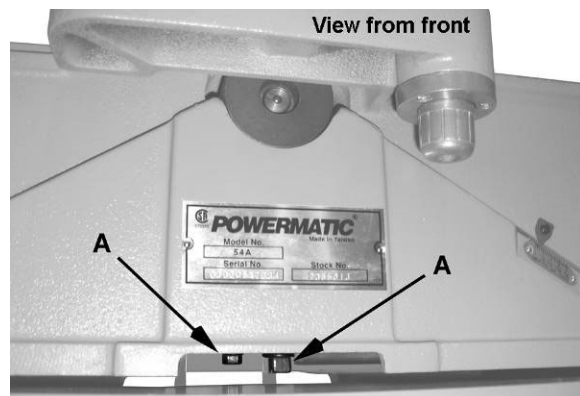

Figure 47
6. Using an 8mm hex wrench, loosen two hex cap screws underneath *fence base casting* (E) that secure the casting to the *table* (F). Remove the *fence base casting* and set aside.
7. Remove four *screws* and *washers* (A) securing the *belt guard* (B). Remove the *belt guard*.
8. Using a 14mm wrench, remove two screws (A, Fig. 47) and *lock washers* that secure the cutterhead bearing housings to the base.
9. Using a 3mm hex wrench, loosen two set screws that secure the cutterhead pulley (D) to the cutterhead shaft. Do not attempt to remove pulley with belt at this time.